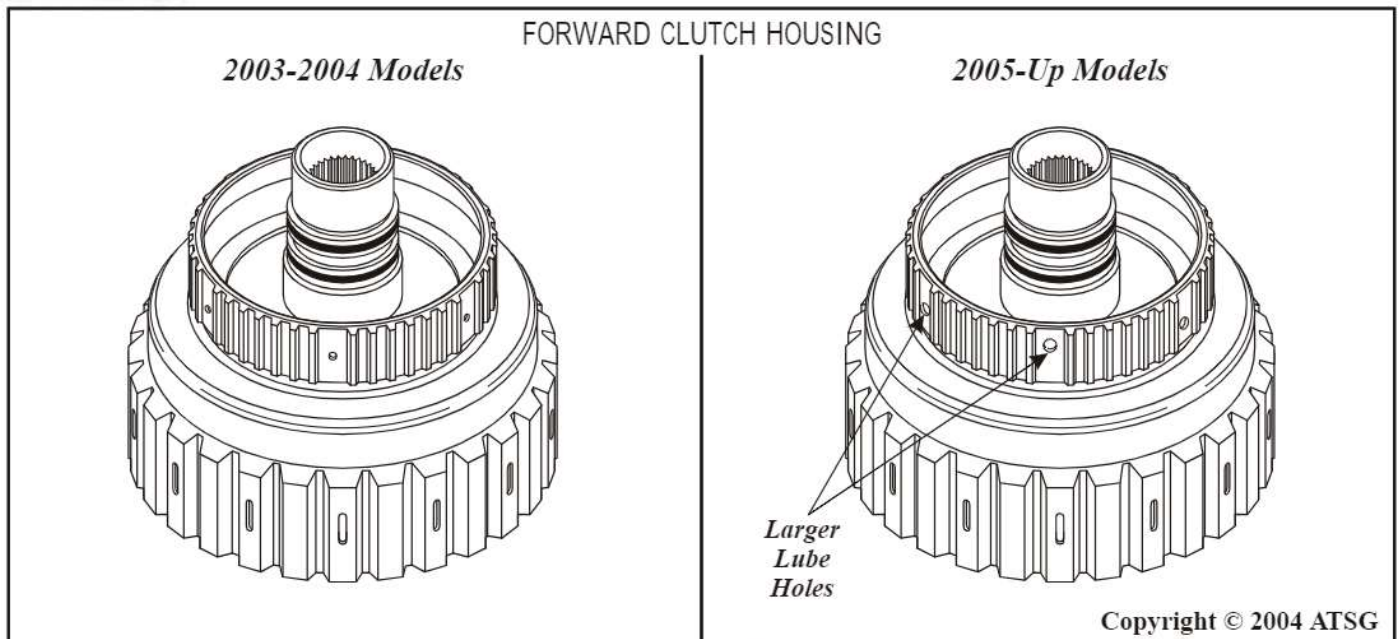

Figure 122
6. The forward clutch housing also changes with increased diameter lube holes in the hub for the direct clutch plates (See Figure 122).